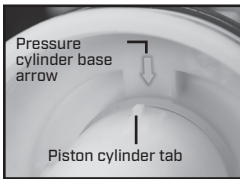

Figure 9
- 11) Grease the 2 O-rings on the piston cylinder (do not get any grease on the valve plate) and screw the piston assembly into the pressure cylinder base. Screw the piston cylinder clockwise until tight and the bottom O-ring is no longer visible. When properly placed, the tab on the piston cylinder will line up with the arrow on the pressure cylinder base (Fig.9).